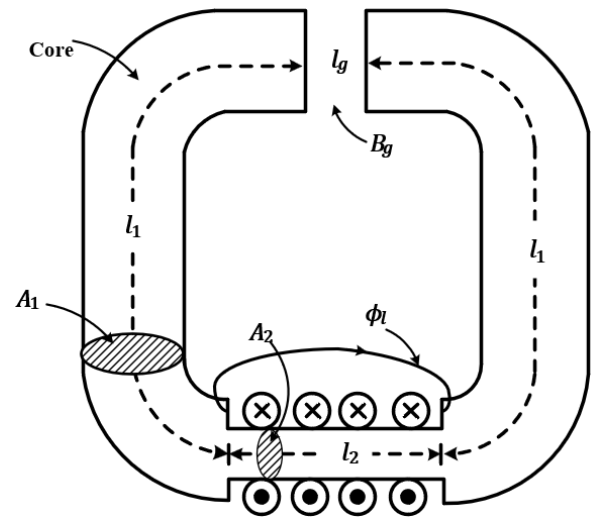

Fig. 8
8. A composite magnetic circuit of varying cross section is shown in the Fig 8. B-H data for the iron part is given below. Also,  $N=200$  turns,  $l_1=4l_2=60$  cm,  $A_1=2A_2=20$  cm2,  $l_g=4$  mm, leakage flux  $\phi_l=0.015$  mWb. Permeability of air gap is  $4\pi \times 10^{-7}$ . Calculate current  $I$  required to establish an air-gap flux density of 0.6 T. Also, Draw the electrical analogue of magnetic circuit.